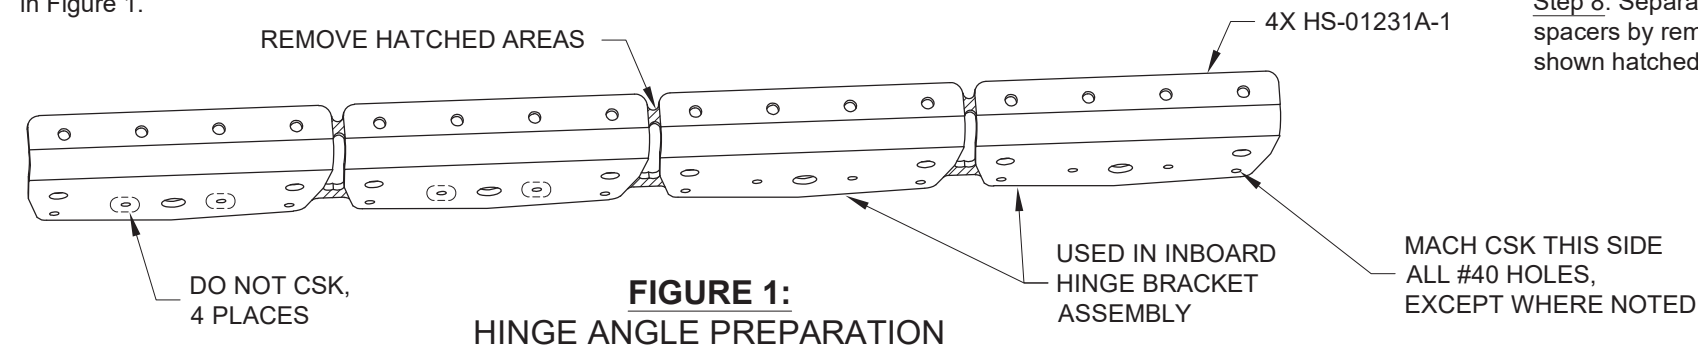

FIGURE 1:
Step 1: Machine countersink the HS-01231A-1 Hinge Angle per the Figure 1 call-out.
Step 2: Separate the hinge angles as shown in Figure 1. Two of the hinge angles are used in the inboard hinge assembly as noted in Figure 1.
Step 3: Machine countersink the #40 holes in the two F-12191 Hinge Spacers. Dimple the #40 holes in the two F-12192 Hinge Spacers. Radius the forward edge of each F-12191 and F-12192. Reference Page 9iS/U-04, Figure 1.